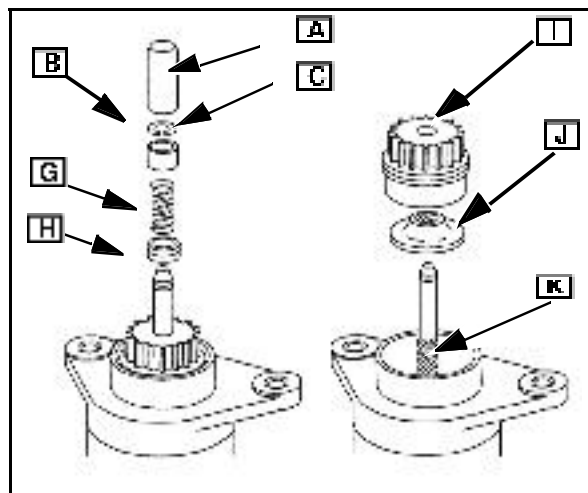
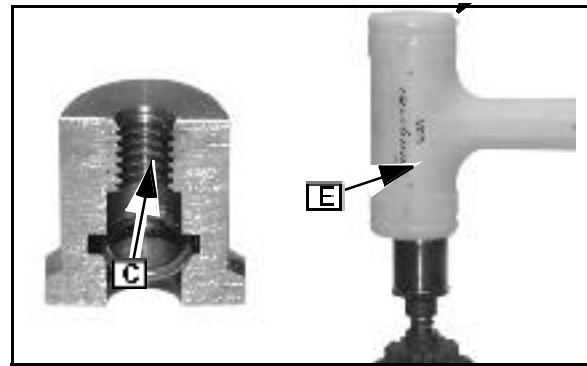

Fig. 39
Fig. 41
1. Remove dust cover (A).
2. Push down on upper spring retainer (B) to expose snap ring ([C] Fig. 39) on shaft.
6. Remove upper spring retainer (B), return spring (G), lower retainer (H), pinion gear (I), and starter clutch ([J] Fig. 39).
Correct any sticking between pinion gear and starter shaft helix ([K] Fig. 39).
Refer to Fig. 39
2. Install the pinion gear (I) with the chamfered teeth up.
3. Place starter clutch (J) on starter shaft. Turn clutch until it drops into place.
4. Assemble lower spring retainer (H) with open end up.
5. Install return spring (G), and install upper spring retainer (B) with open end up.
6. Place new retainer ring (C) inside two halves of tool #19467 (D), and slide tool sleeve down over two halves, Fig. 41.
7. Place tool #19467 over armature and strike tool with hammer (L) to drive ring into groove.
8. Pull up on upper spring retainer (B) until retaining ring snaps into groove in upper spring retainer, Fig. 39.
9. Install rubber dust cover (A). Push dust cover down until it snaps into groove in lower spring retainer (H).